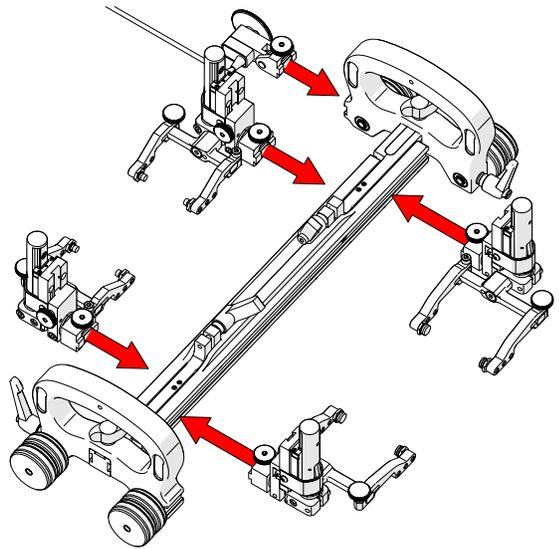

Fig. 90 - Mount probe holders and encoder
3. Assemble the appropriate configuration to the scanner body (*Fig. 90*).
4. Mount the spring-loaded encoder (see “Spring-Loaded Encoder” on page 13) to the wheel block with handle (*Fig. 90*). When possible, mount the spring-loaded encoder in a position that follows the scanner direction of travel. Mount the probe holders to the dual pivot frame bar (see “Probe Holder Setup” on page 14).